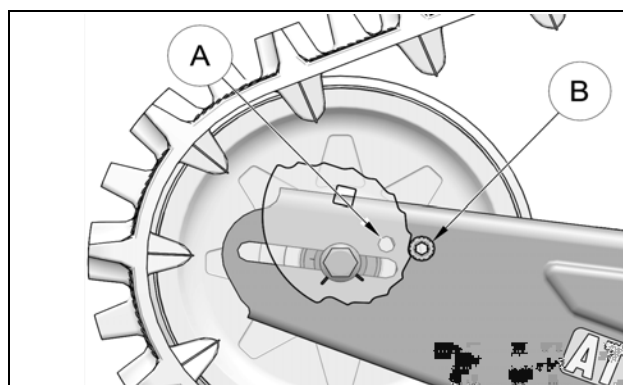

Figure 28
- (A) - System with 15 or 16-tooth sprockets.
- (B) - System with 17 or 18-tooth sprockets. See Figure 28.